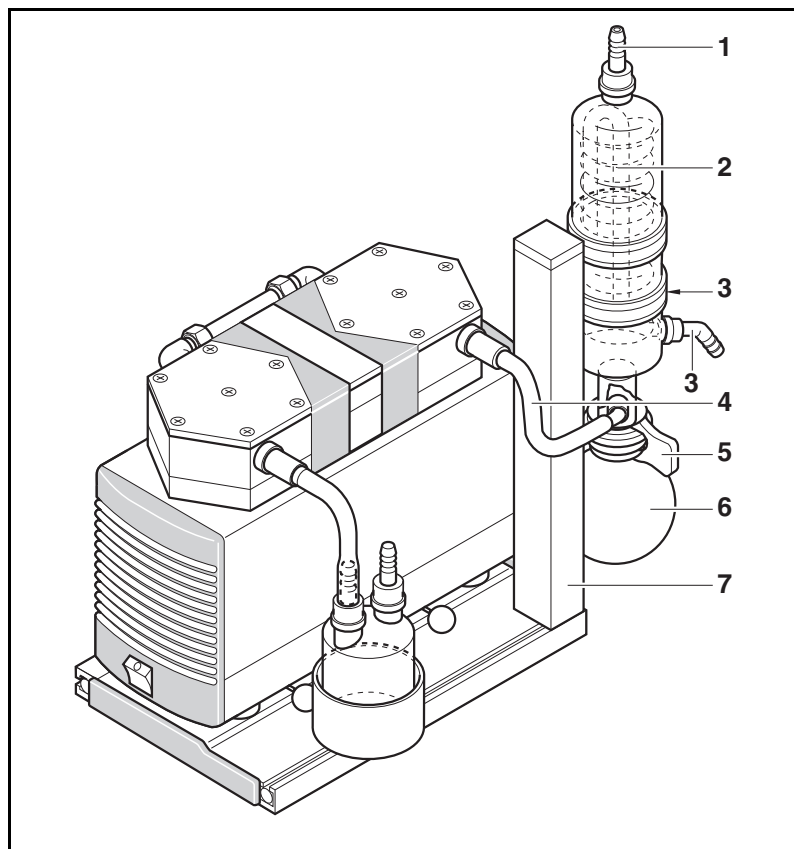

Fig. 7: High performance condenser (shown: LABOPORT system SH with pump N 840.3 FT.18 as example)
1. Slide the support of high performance condenser (see fig. 7/7) into the baseplate's upward-pointing slotted bar.